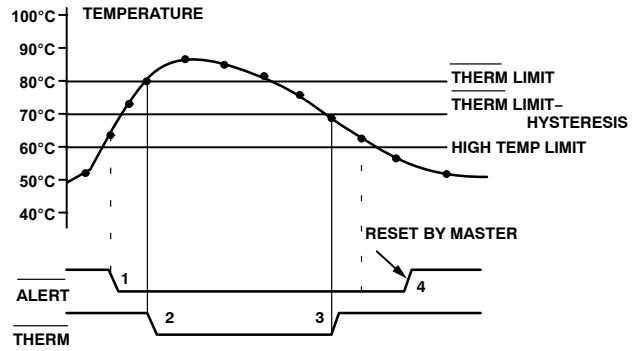

Figure 14. Operation of the $\overline{\text{ALERT}}$ and $\overline{\text{THERM}}$ Interrupts
Figure 14 shows how the $\overline{\text{THERM}}$ and $\overline{\text{ALERT}}$ outputs operate. The $\overline{\text{ALERT}}$ output can be used as a $\overline{\text{SMBALERT}}$ to signal to the host via the SMBus that the temperature has risen. The user can use the $\overline{\text{THERM}}$ output to turn on a fan to cool the system, if the temperature continues to increase. This method ensures that there is a fail-safe mechanism to cool the system, without the need for host intervention.
- The $\overline{\text{THERM}}$ output de-asserts (goes high) when the temperature falls to $\overline{\text{THERM}}$ limit minus hysteresis. In Figure 14, the default hysteresis value of 10°C is shown.